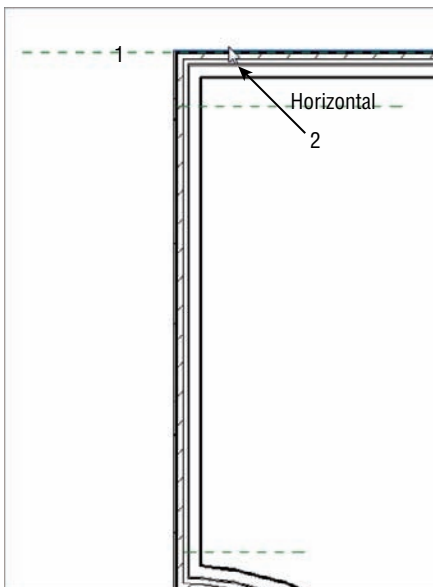

FIGURE 4.18 The two reference planes are established.
6. With the Ref Plane command still running, repeat the procedure for the top of the wall. You want to pick the top, outside face of brick, avoiding the concrete ledge below, as shown in Figure 4.18.